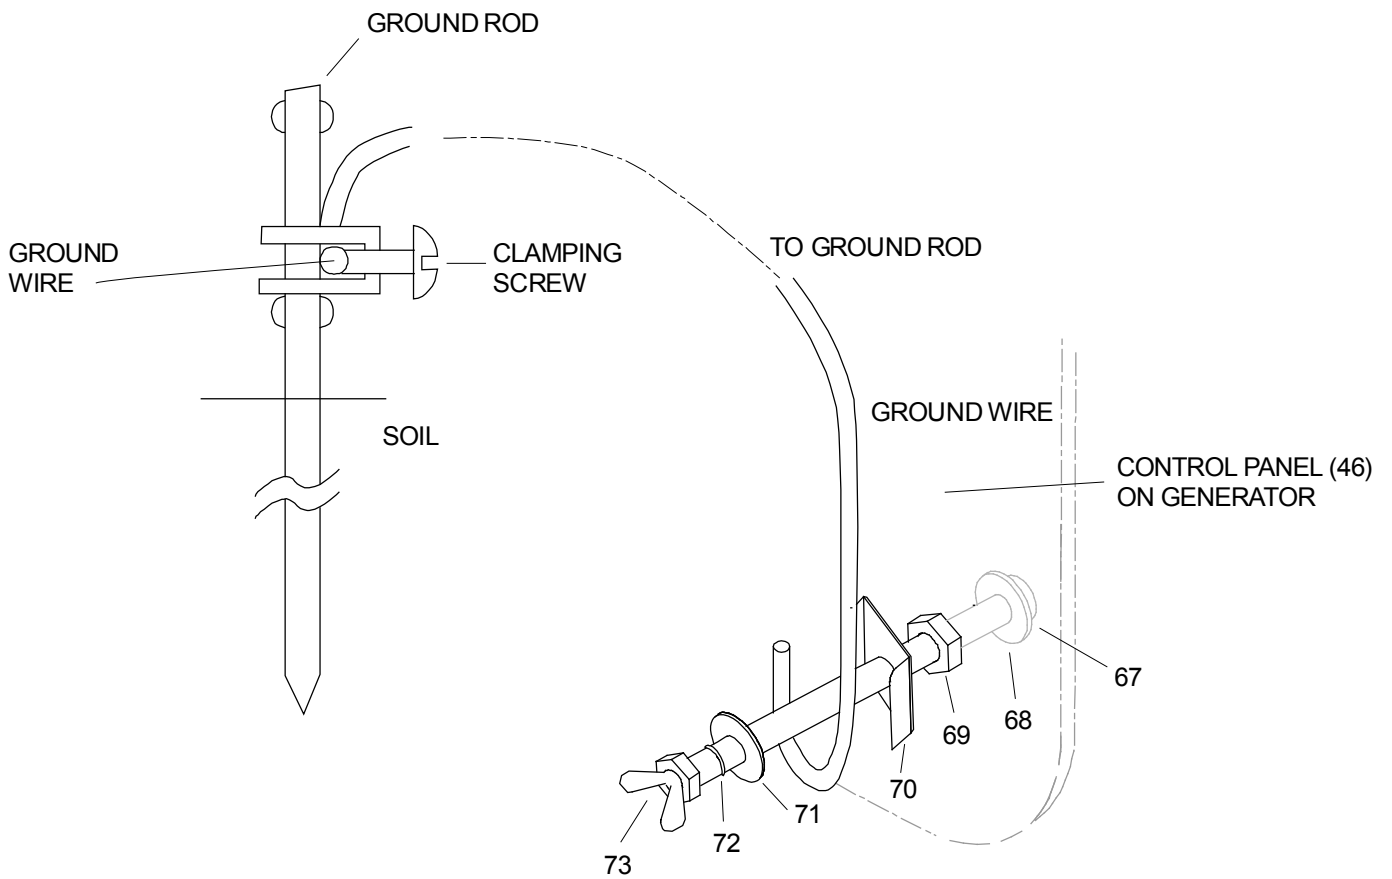

Figure 3-4: Grounding Provisions
- (1) The portable generator is fitted with a grounding post on the right side of the control panel. The parts that make up the grounding post are shown in the Replacement Parts section. The grounding post components and their installation sequence are shown in more detail in Figure 3-4.
- (2) If the grounding post has been disassembled, reassemble as follows:
- (a) Install star washer (68) on ground post(67). Insert ground post (67) in backside of panel (46).
- (b) Install nut (69) on ground post (67) and tighten.
- (c) Install cap washer (70) with sides facing out.
- (d) Install flat washer (71), lock washer (72), and wing nut (73).
- (3) Form a loop in ground wire and slip wire between flat washer (71) and cap washer (70). Tighten wing nut (73).
- (4) Drive ground rod in ground (or attach to known facility ground). Insert free end of ground wire in clamping screw on rod (or other clamping device) and tighten.